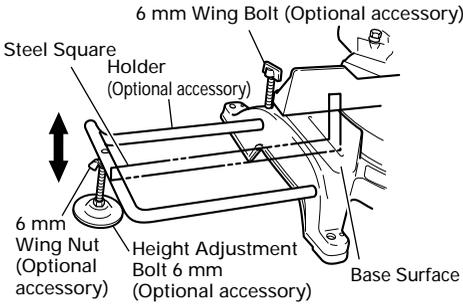

Fig. 21
- (1) As indicated in Fig. 21, use a steel square for aligning the upper edge of the holders with the base surface. Loosen the 6 mm wing nut. Turn a height adjustment bolt 6 mm, and adjust the height of the holder.